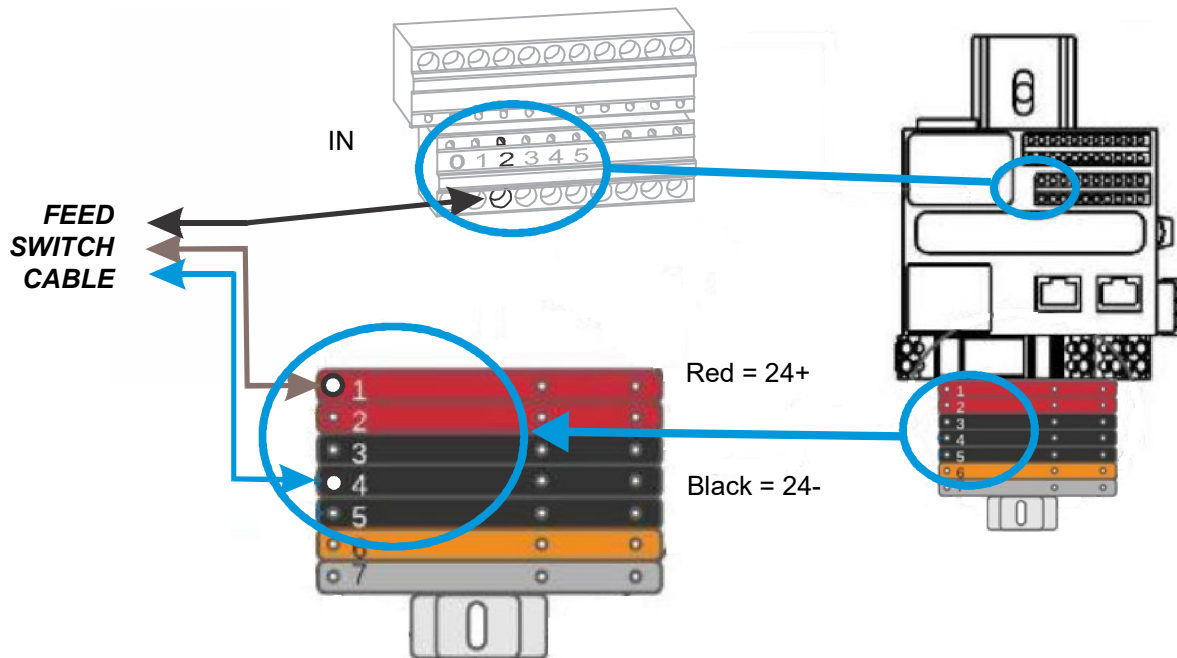

FIG. 21
g. Connect the black, brown, and blue wires only to the PLC as shown in FIG. 21.